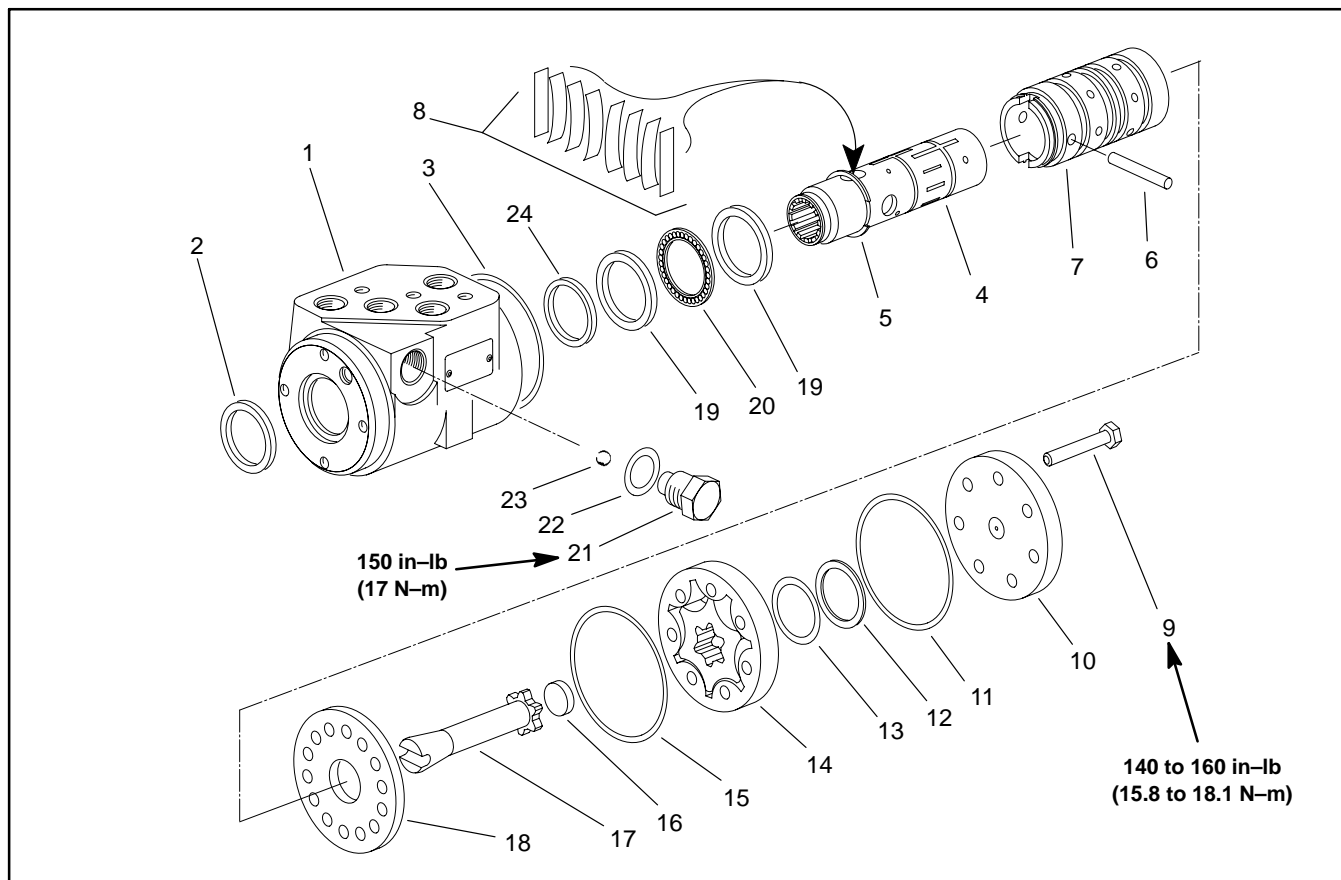

Figure 48
2. Remove end cap, geroter, spacer, geroter drive, wear plate, seal ring, and o-rings (Items 11, 13, and 15) from housing (Fig. 48).
5. Remove the thrust bearing and bearing races (2).